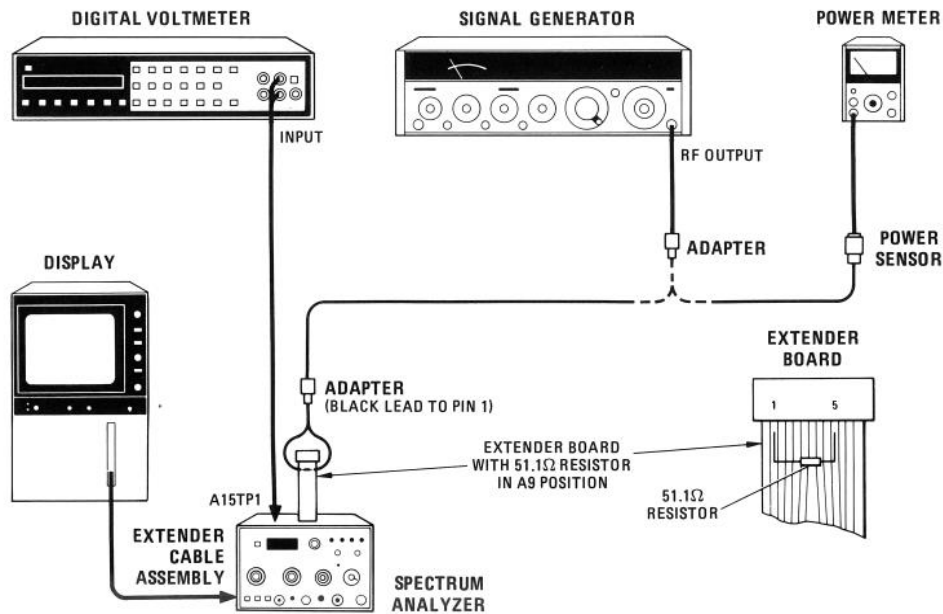

FIGURE 5-10. STEP GAIN ASSEMBLY RF GAIN ADJUSTMENT TEST SETUP
2. Connect equipment as shown in Figure 5-10.